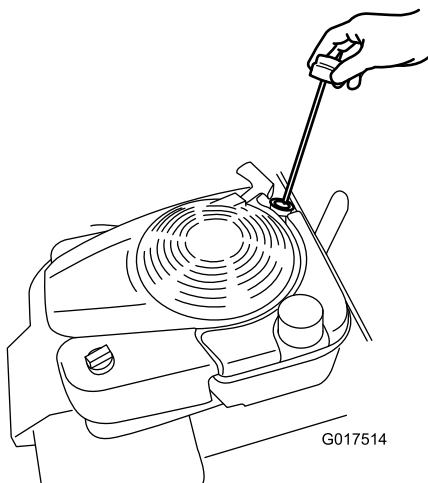

Figura 12
2. Retire la varilla (Figura 12).